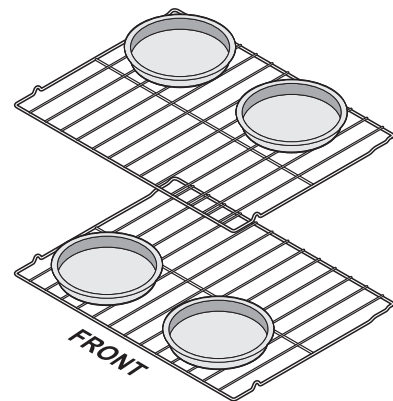
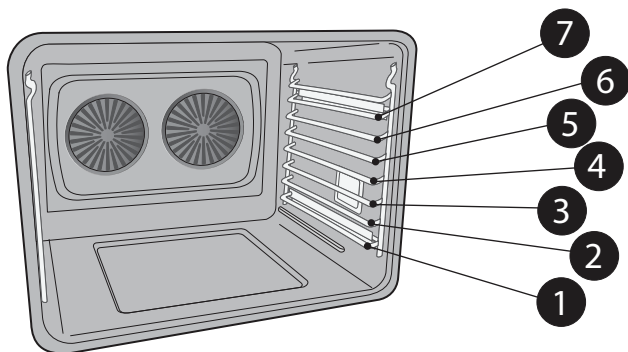

Figure 21: Pan spacing for convection baking
Figure 22: Rack positions
- When baking cakes using two oven racks, place bakeware in positions 2 and 7 (Figure 22) and place pans as shown in Figure 21. Use a flat rack in position 7 and a glide rack in position 2.